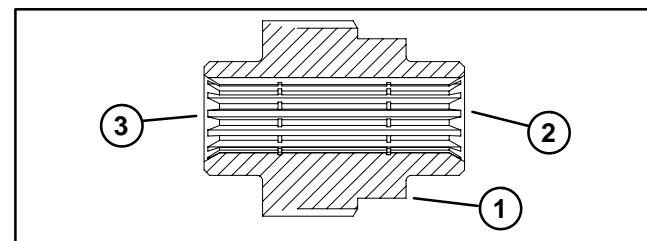

Figure 7
**NOTE:** The stepped end of the splined brake shaft must be aligned toward the hydraulic wheel motor (Fig. 7).
4. Make sure that gasket is properly positioned and then install flange head screws (11) to secure brake assembly to planetary assembly. Tighten screws in a crossing pattern to a torque of 60 ft-lb (81 N-m).